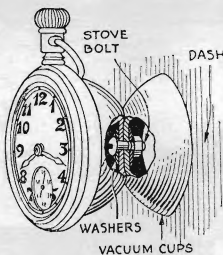

Fig. 3. Vacuum cups hold watch to the dash
**FIGURE 3** shows a simple way to make a satisfactory watch holder for use in a car. It permits any standard smooth-backed watch to be held at any desired position on either the dash or the windshield. Remove the rubber vacuum cups from two of the various novelties so fitted and fasten them, back to back, by means of a screw and nut as indicated in the cut-away view. Moisten both cups and press on in the usual manner. The watch can be easily set or wound without removing it from the cups.